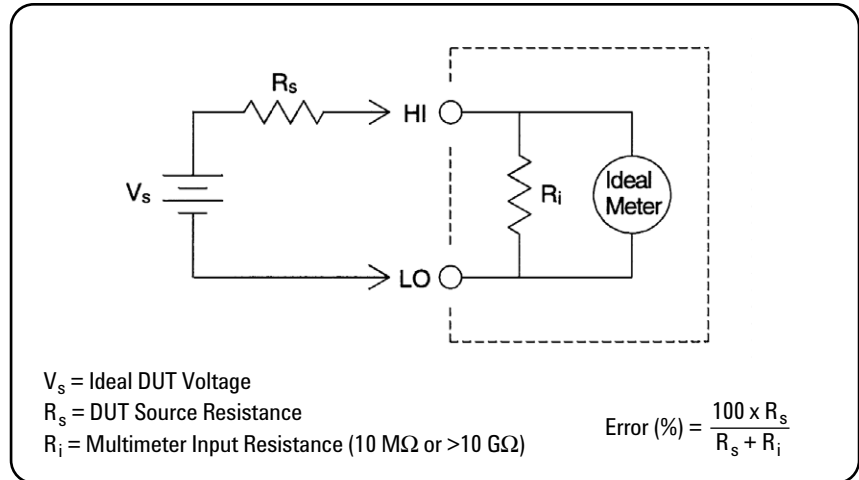

Figure 7.
**Loading Errors Due to Input Resistance** – Measurement loading errors occur when the resistance of the DUT is an appreciable percentage of the multimeter’s own input resistance. Figure 7 shows this error source.